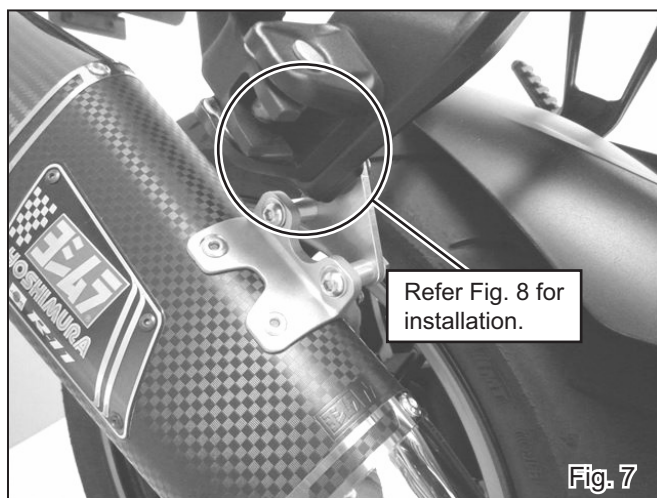

Fig. 7
7) Mount Silencer Assy to stock silencer bracket with Cap Bolt M8x25 and 2 of Washer M8x20 (See Fig 7 & 8). Tighten the bolt by hand only at this stage.